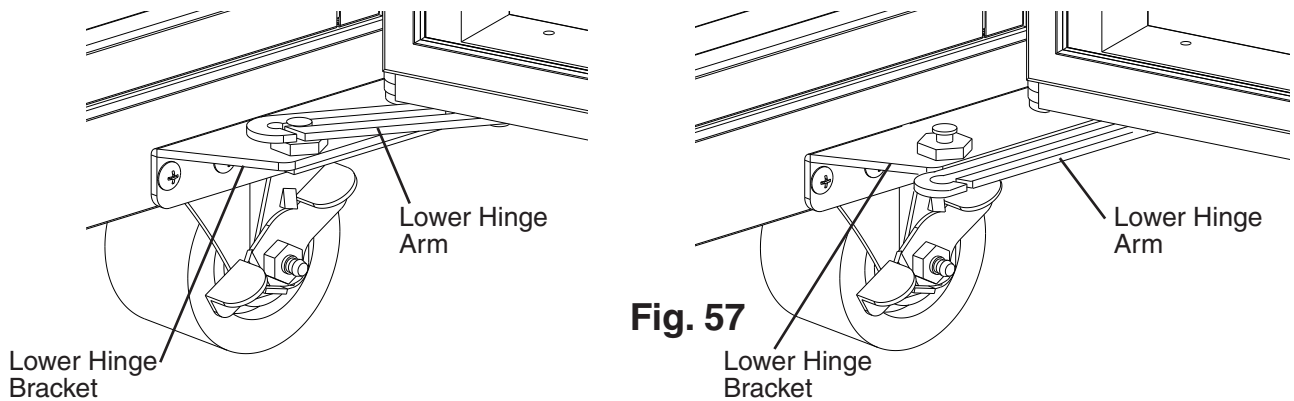

Fig. 57
9) Open the lower door. Using a screwdriver, unhinge the lower hinge arm from the lower hinge bracket. See Fig. 57